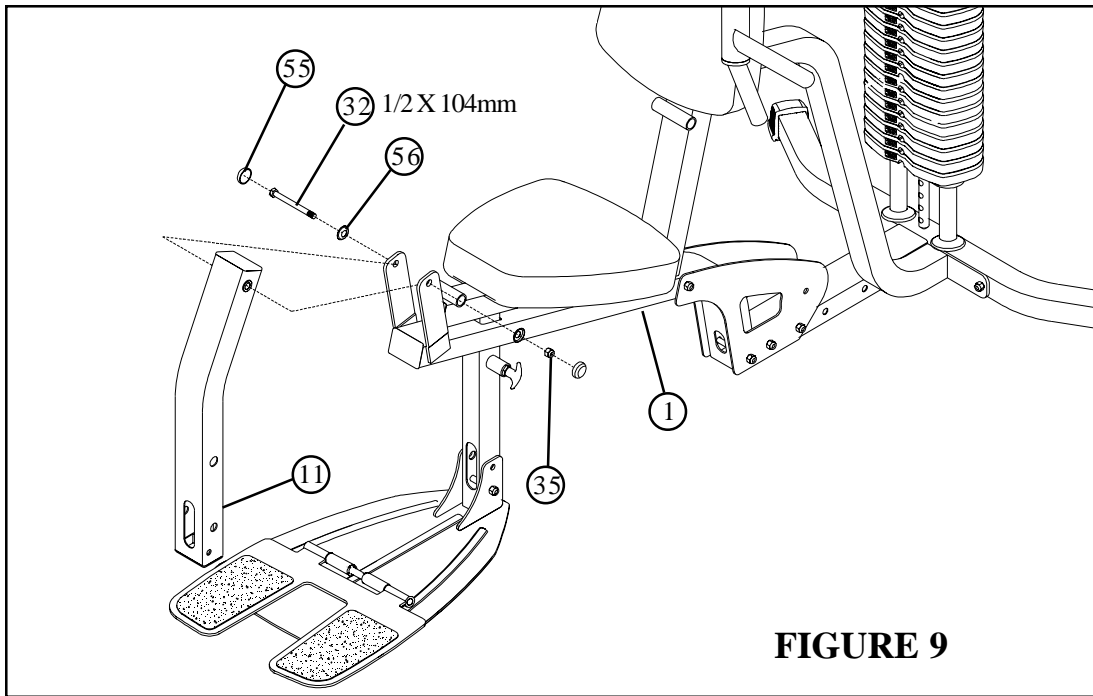

FIGURE 9
- Assemble the LEG PEDESTAL (11) to the FRAME (1) using one 1/2 X 104mm BOLT (32), two RH WASHERS (56) and one 1/2" LOW HT LOCK NUT (35)
- Assemble two RH CAPS (55) to the 1/2" RH WASHERS (56) as shown in FIGURE 9